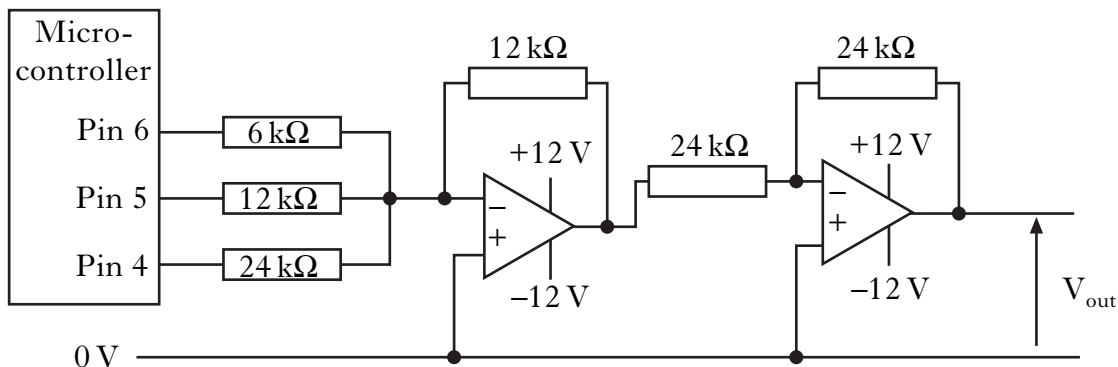

Figure Q5
5. A digital-to-analogue converter (DAC) is shown in Figure Q5. A microcontroller provides the input signals to the DAC. The output voltage,  $V_{out}$ , from the DAC controls the speed of a motor.